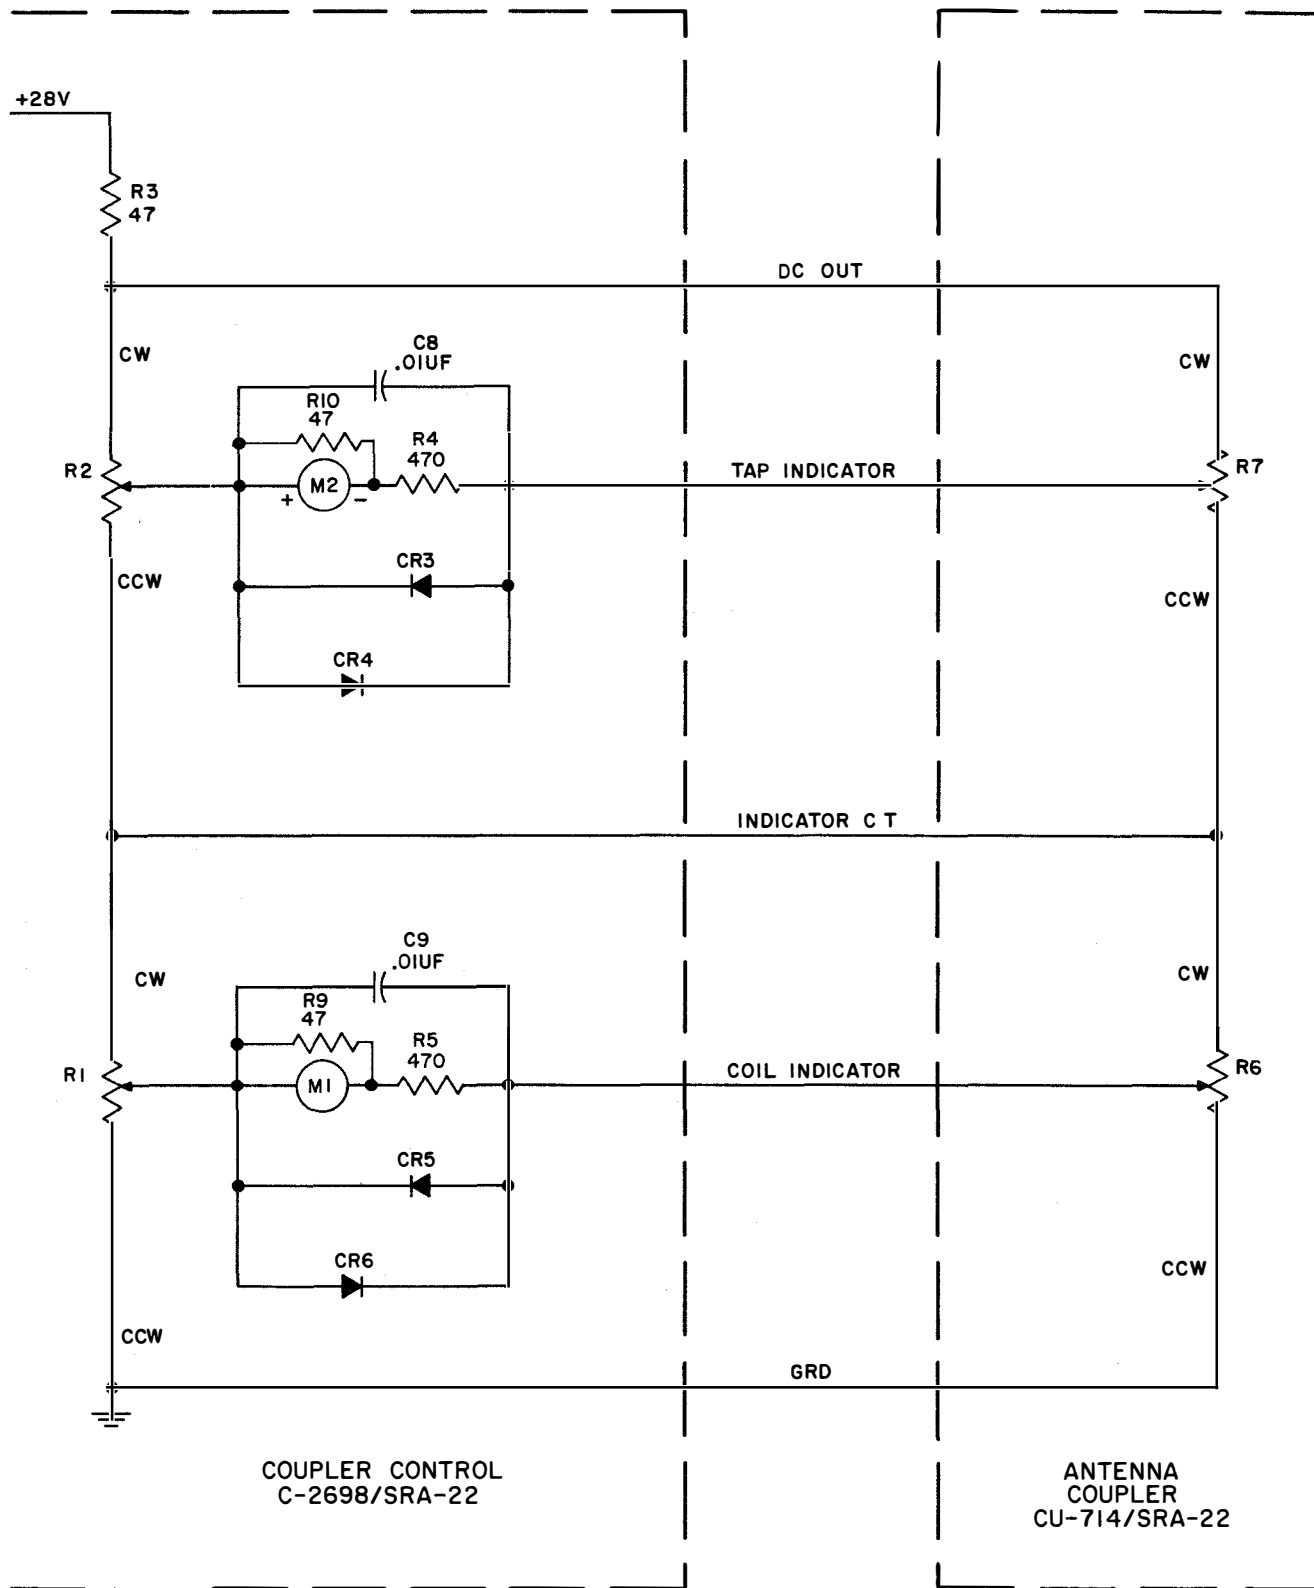

Figure 4-2. TAP and COIL Indicator Meter Circuits, Simplified Schematic Diagram
(1) TAP AND COIL INDICATORS. - Refer to figure 4-2 for the simplified schematic diagram. The position indicators (TAP and COIL) consist of sending potentiometers in the coupler control and receiving potentiometers in the antenna coupler. The sending potentiometers are connected to individual tap and coil drives by gears so that coil and tap positions